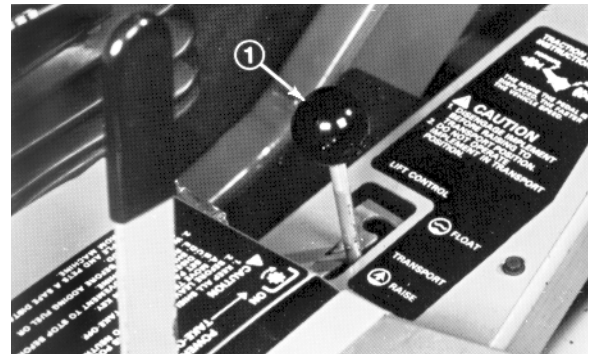

Figure 6
**Lift Lever** (Fig. 6)—The hydraulic lift lever has three positions: FLOAT, TRANSPORT and RAISE. To lower the implement to the ground, move the lift lever forward into notch, which is the FLOAT position. To raise the implement, pull the lift lever backward to the RAISE position. After the implement is raised, allow the lift lever to move to the TRANSPORT position. Normally, the implement should be raised when driving from one work area to another, except when descending steep slopes.